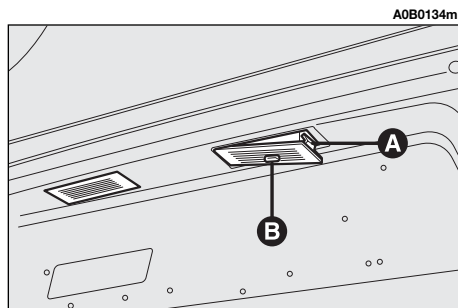

fig. 54
- Remove the number plate light unit using a flat-tipped screwdriver protected by a soft cloth on the catch (**A-fig. 54**).
- Remove the unit (**B-fig. 54**).
— Refit the complete unit (**B-fig. 54**) firstly inserting the catches and then pressing in correspondence with the stopper (**A-fig. 54**).